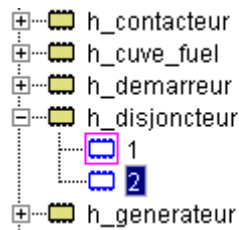

Figure 92 : Versions of a component model
- ◆ Click on  to display the versions (Figure 92):
Warning : If several model versions exist, only in the last version is duplicated. To duplicate another version of the component, user must select the right version in the component tree structure (Figure 92) before launching the command **Model ... → Duplicate**.
When the new component version has been created, it is stored in the component library (Figure 92) below the previous model version.